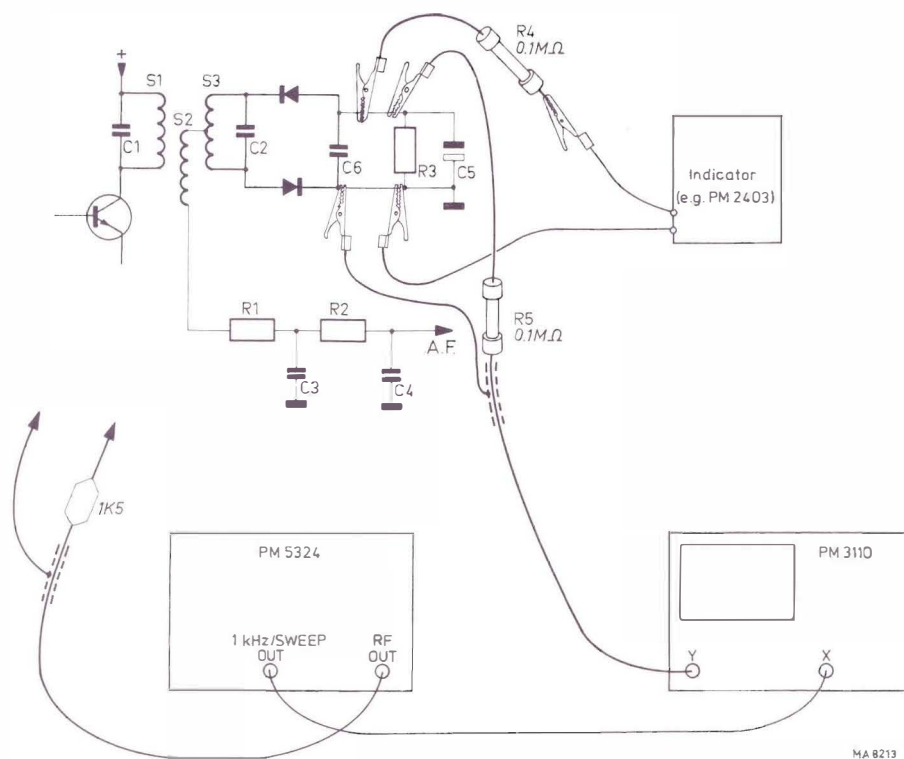

Fig. 16. Dynamic adjustment of an f.m. receiver
#### 2.3.4.2.1. Connection of the measuring instruments (Fig. 16)
- Unsolder the electrolytic capacitor in the ratio detector (C5, Fig. 16).
- Solder the electrolytic capacitor (C5, Fig. 16) again.
- Connect the oscilloscope to C4/R2 (Fig. 16)
- Unsolder the electrolytic capacitor (C5, Fig. 16) again
- Solder the electrolytic capacitor (C5, Fig. 16) again
- Connect the indicator across resistor R3 of the ratio detector via a resistor of  $0.1 \text{ M}\Omega$  (R4, Fig. 16).